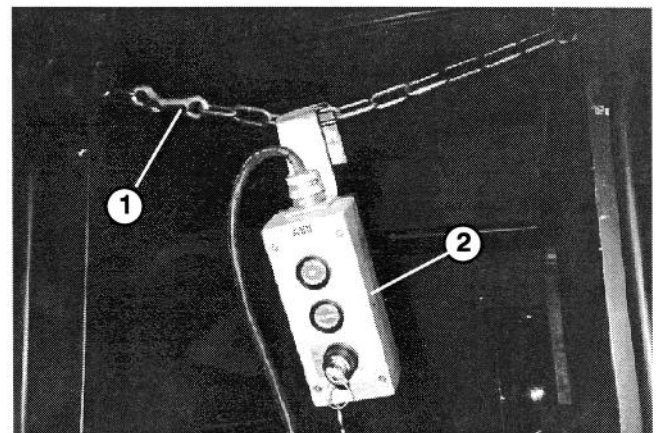

Figure 21
3. Climb into platform and secure safety chains across entry (Fig. 21).